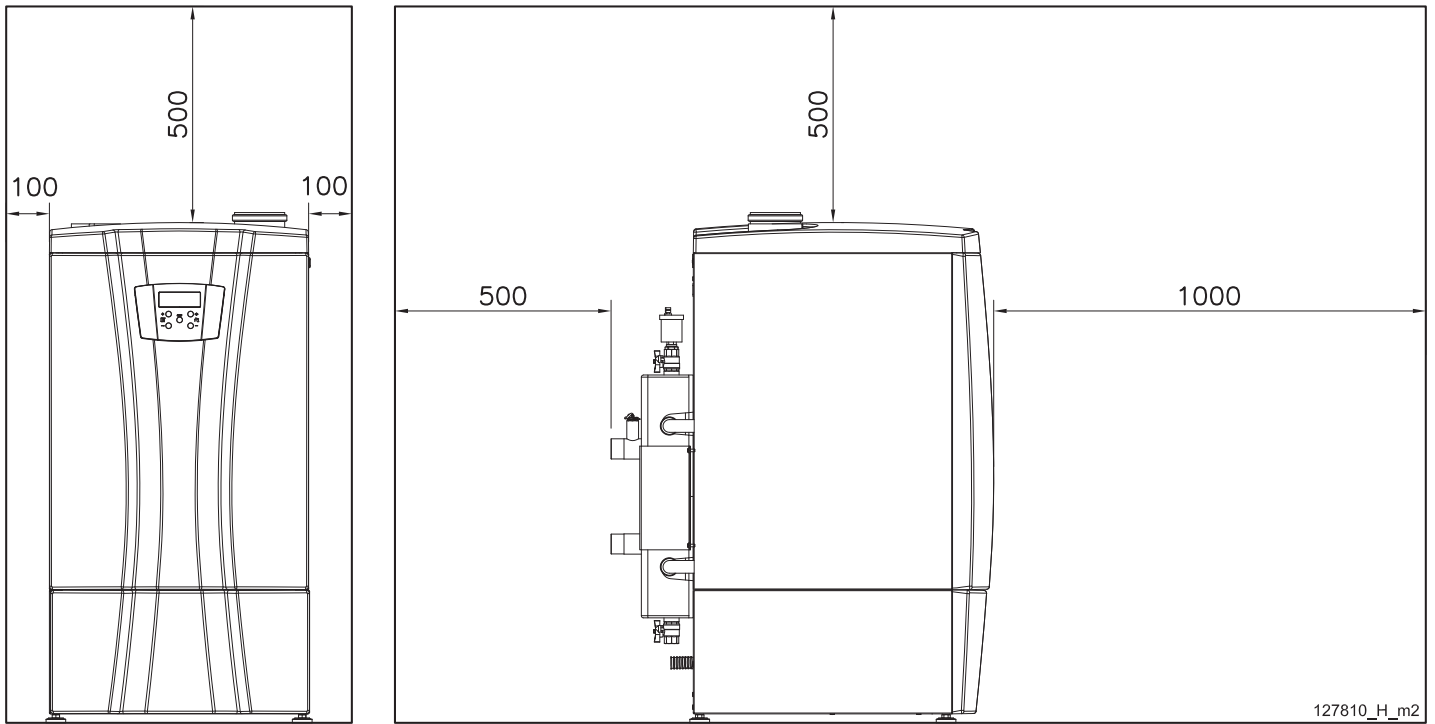
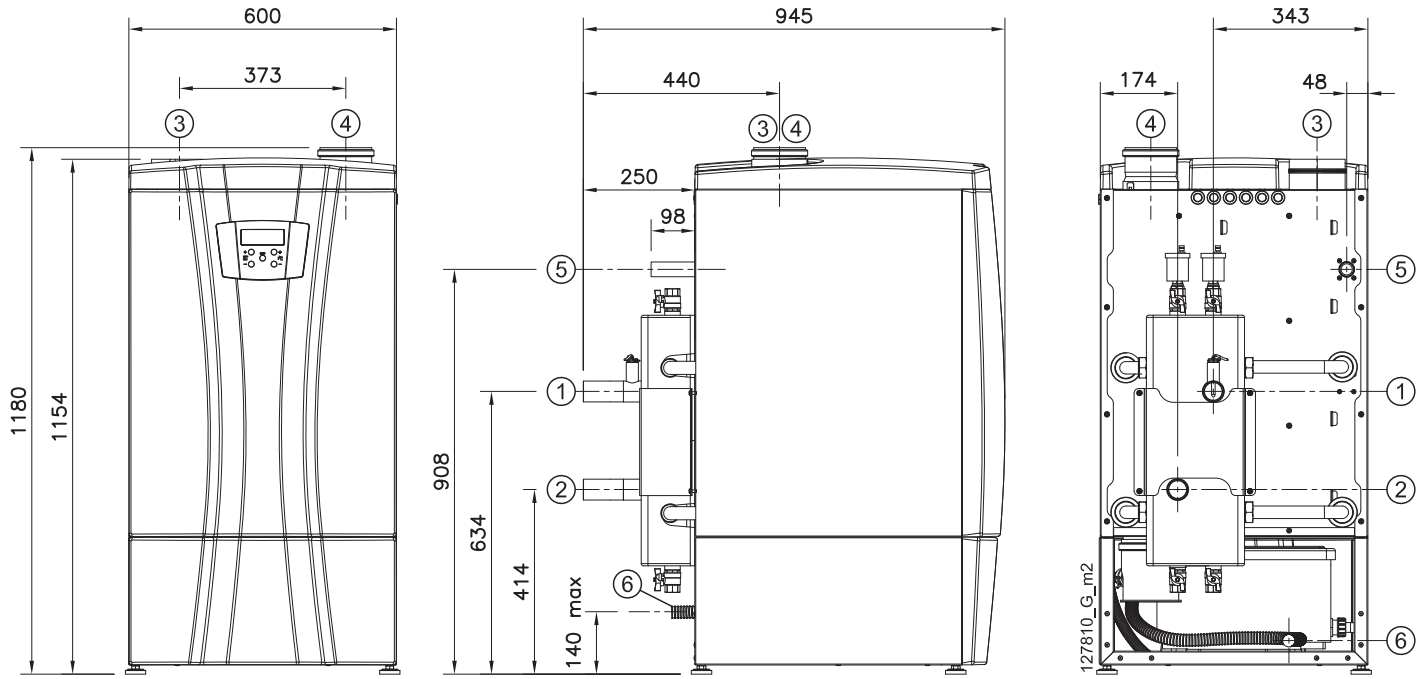

Figure 7-1 - Minimum distances to be observed for models 60T, 70T, 100T, 115T and 140T
Figure 8-1 - Dimensions and centre space distances of attachments for models 60T, 70T, 100T, 115T and 140T (References in figure 8-3)
- ☞ Check figures 7-1 and 7-2 regarding minimum distances to be observed for installation and future maintenance.
For both installation and maintenance, it is necessary to leave free spaces around the boiler, as shown in figures 7-1 and 7-2. The dimensions and connection centre space distances for the boilers are shown in figures 8-1, 8-2, 9-1 and 9-2.
To identify the position of the connections, see figures 8-1 and 8-2.